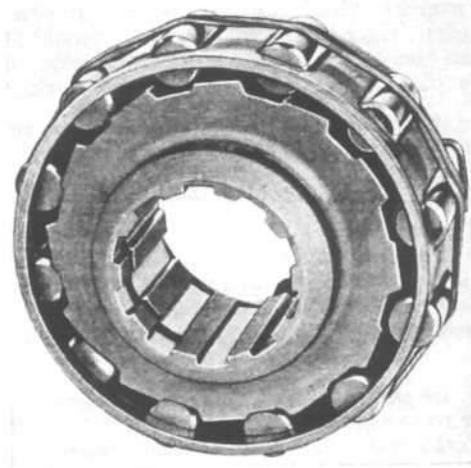

FIG. 205—FREEWHEELING ROLLERS
f. Use heavy grease to hold the freewheeling rollers in position in the retainer. Place a rubber band around the rollers (Fig. 205) with sufficient tension to drop the rollers into the grooves of the cam. Hold them in position when the retainer is turned to the left. The rollers must be in the grooves and compressed to the smallest possible diameter before the ring gear and mainshaft will pass over the rollers. Leave the rubber band around the rollers and install the ring gear and mainshaft. Oil will dissolve the rubber band.